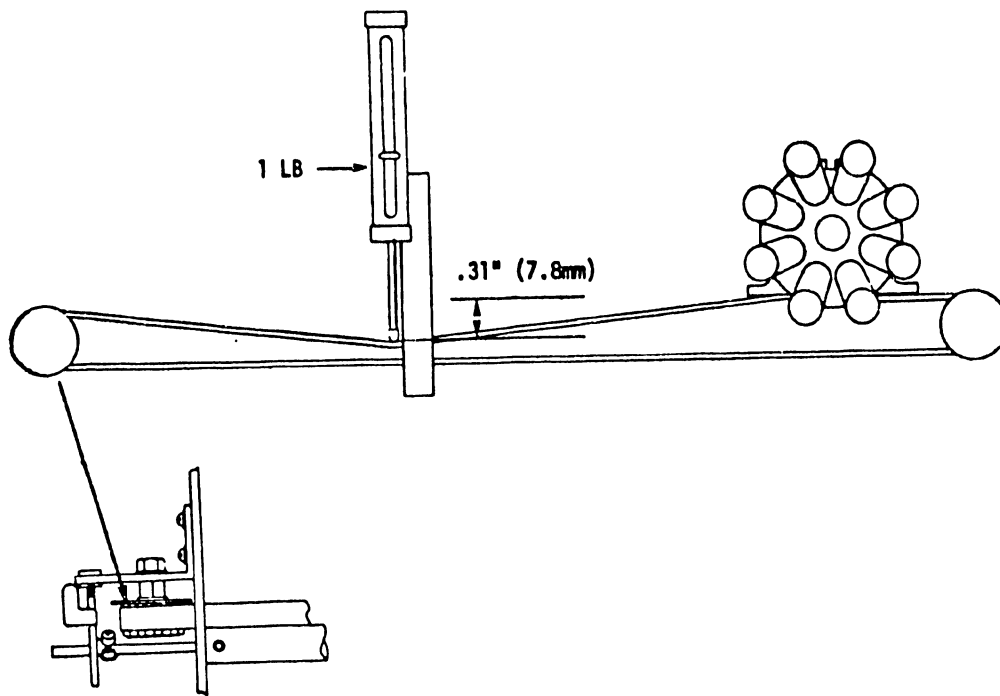

FIGURE 5-6 MAIN DRIVE BELT ADJUSTMENT
- 2) Using a spring gauge and scale, deflect the middle of the belt .31" or 5/16" (7.9 mm). The gauge should read 1 lb +2 oz (453 grams +57 grams). (Figure 5-6).